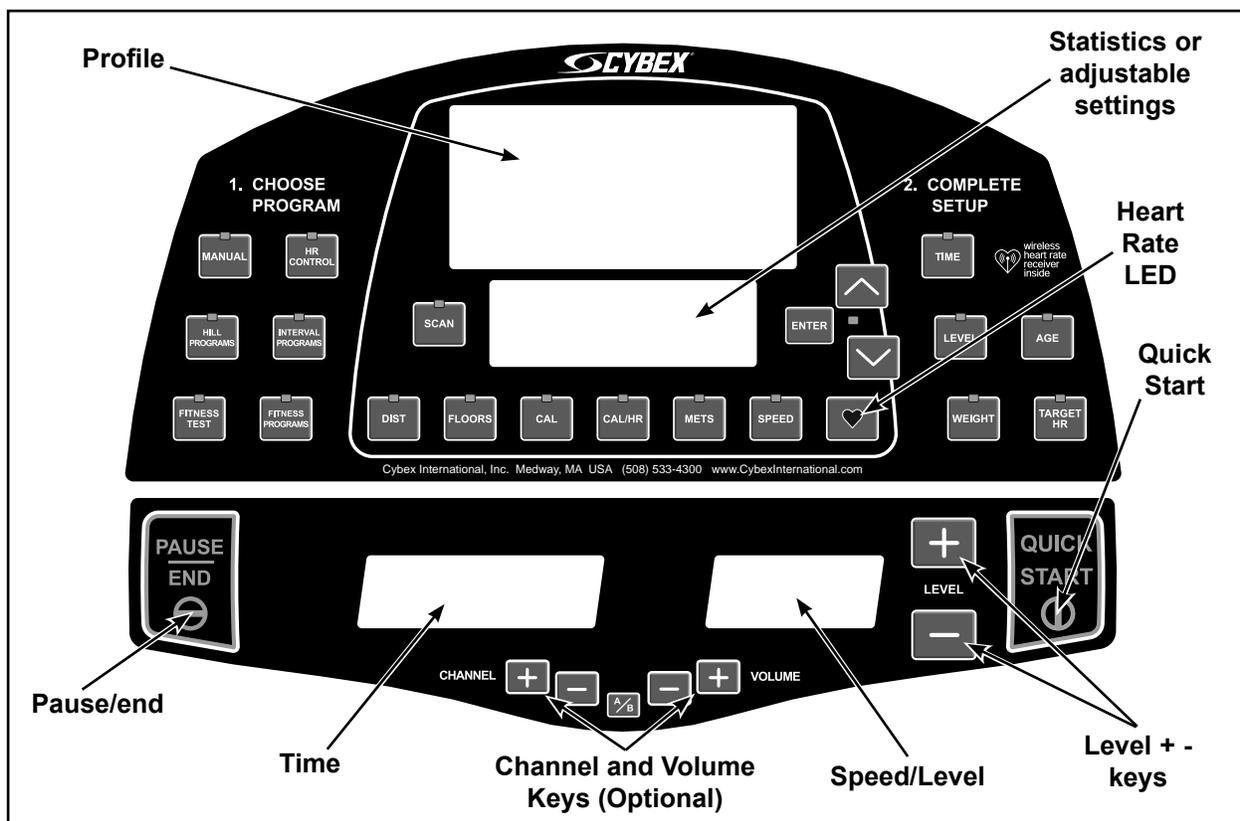

Figure 1
4. Observe the four displays (See Figure 1):
**NOTE:** Heart Rate is scanned only when you are holding the contact heart rate grips or using Polar compatible heart rate transmitter. See Figure 1.